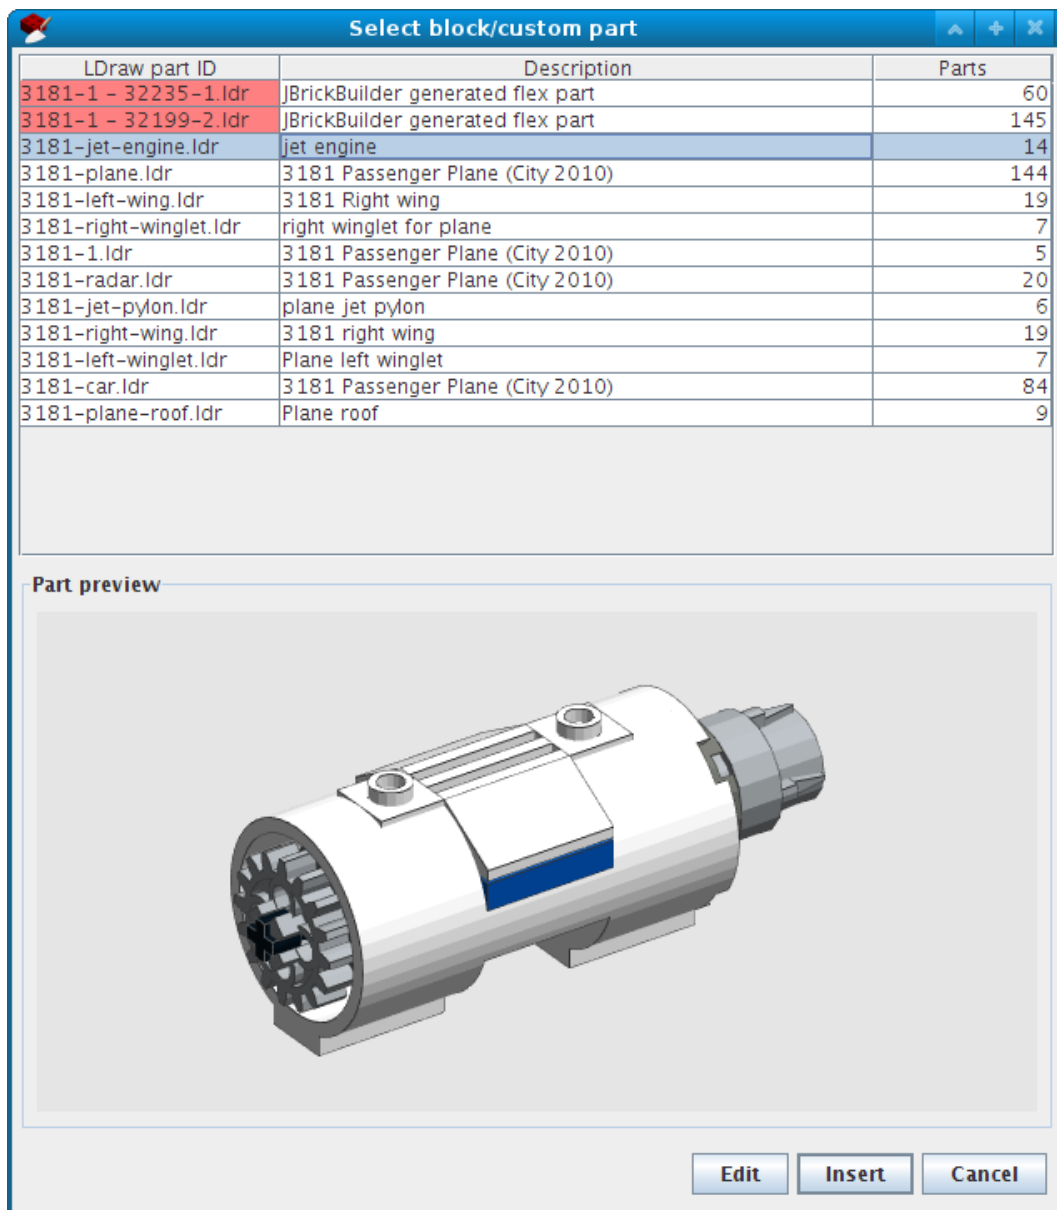

Fig. 8: Sub-model dialog
-  Select a block/submodel for insert or editing. Will show a dialog (Fig. 8) where you can see all submodel loaded and select one for insert in current model (button “Insert”) or to switch model editing (button “Edit”). Program generated parts (as flexible parts, see 5.4) are marked in red if not saved on disk by user.